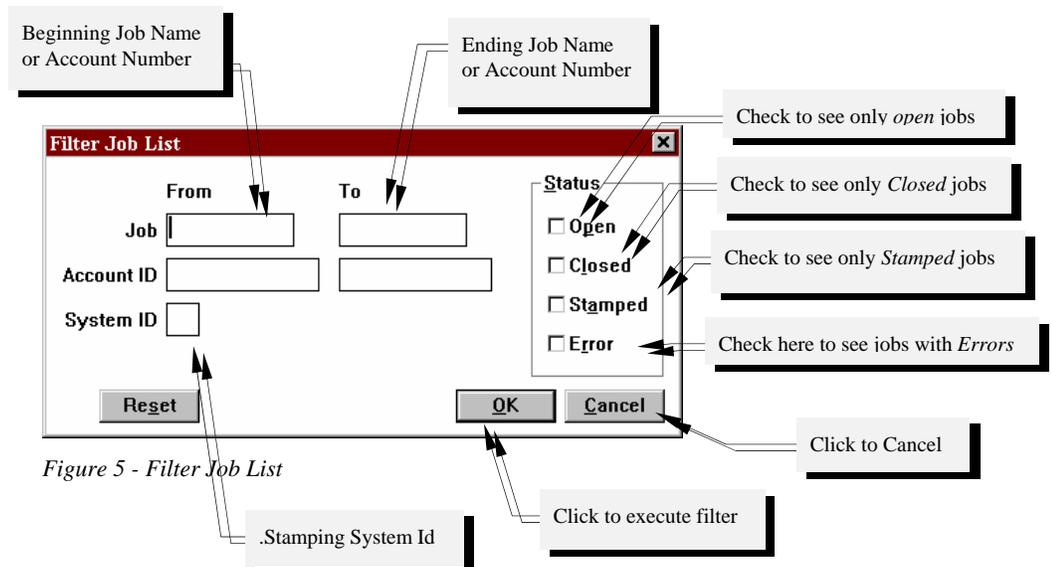

Figure 5 - Filter Job List
- "The third group of buttons is used to get specific Information such as the job creator and date last modified of a job. **Filter** allows you to view jobs that only meet a given criteria (see Figure 5 - Filter Job List. **Refresh** refreshes the current job listing." (points to Info, Filter, Refresh buttons)
To get job information, you must be on the *Job Status Database window* (Figure 3). First, highlight a job line and then click on the **Filter** button or hold down the *Alt* key and press the *f* key. The following *Filter Screen* (Figure 5) will appear.